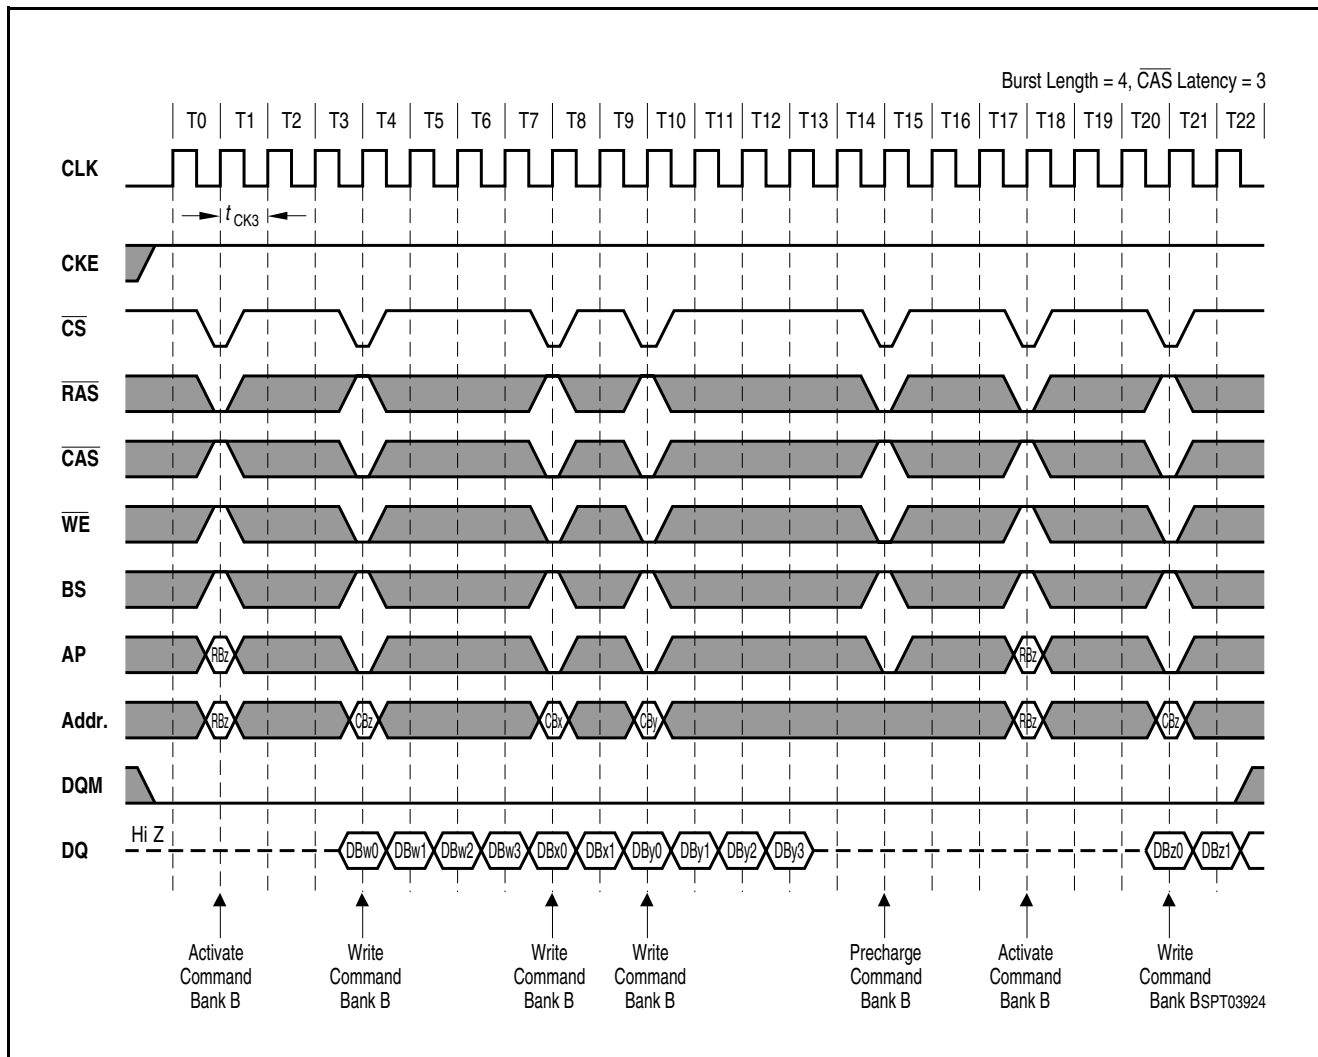

Figure 30 CAS Latency = 3
- **Figure 30** CAS Latency = 3